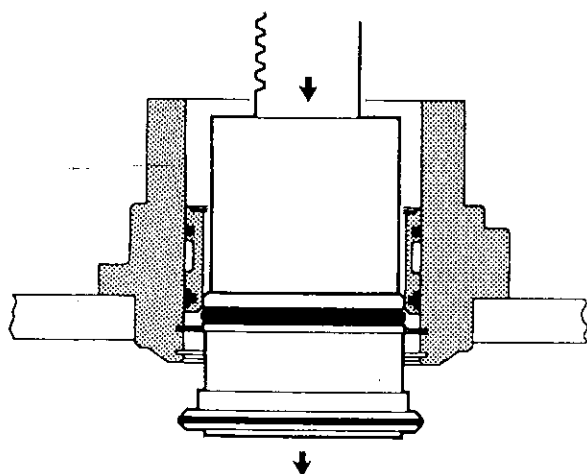

Figure 3.10
17. Place drive housing in a press supported by its flange and press out the bearing retainer (14). See Figure 3.10.